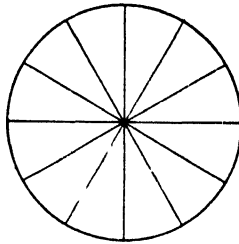
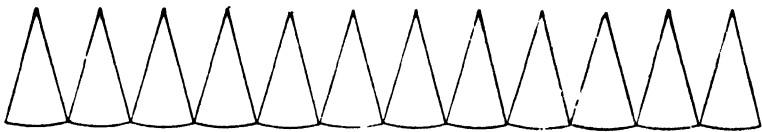

Fig. 39.
Fig. 40.
83. Areas of Circles. The circle may be divided into a number of equal sectors, Fig. 39, that are essentially triangles. The radius of the circle represents the altitude of these triangles, and the arc represents the base. Hence the area of all the sectors, Fig. 40 (which